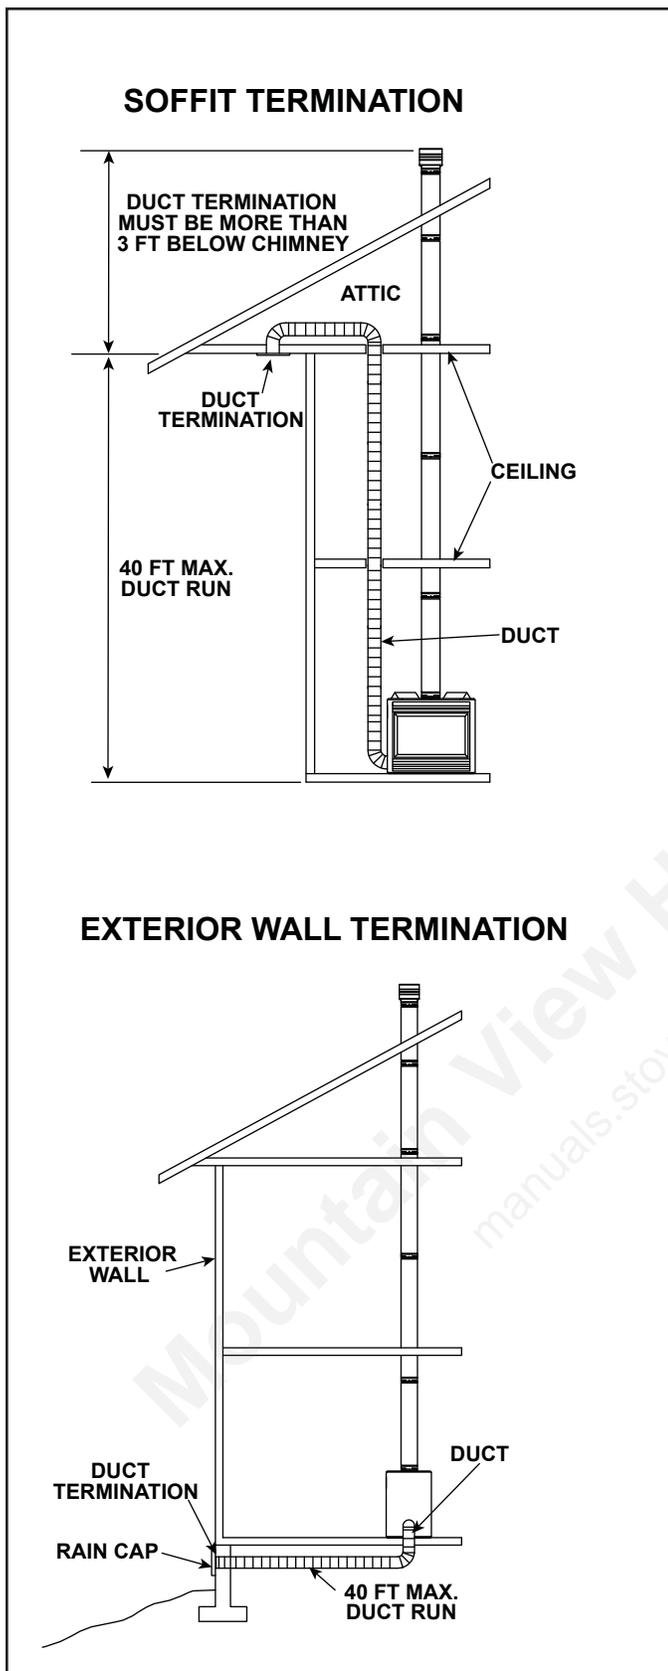

Figure 2. Soffit and Exterior Wall Termination
The duct run must be limited to a maximum distance of 40 feet from the fireplace pipe collar to duct termination. This will provide the least restriction to air flow. No more than four 90 degree elbows can be used. The duct run may be horizontal, vertical inclined or any combination of these for all models. Vertical duct runs must be at least three (3) feet below the fireplace chimney flue exit. See Figure 2.